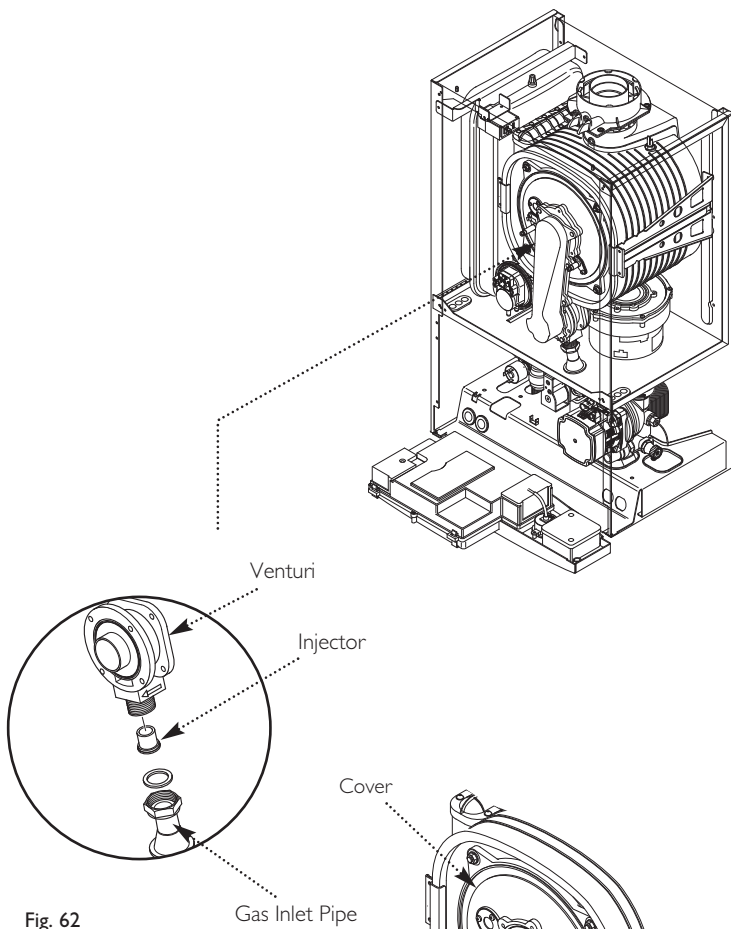

Fig. 62
13.4 Fan (Fig. 62 & 63)
1. Undo the nut on the gas inlet pipe to the venturi (Fig. 62) and pull the sensing pipe off the fan.